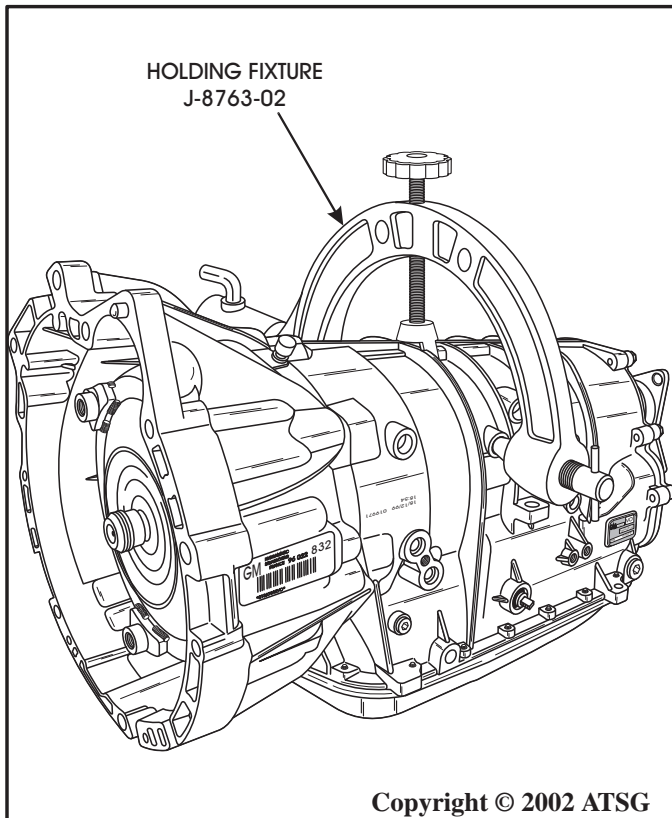

Figure 25
1. Install transmission Holding Fixture J-8763-02 or equivalent that will allow you to mount the transmission in a bench fixture and rotate it to a desired position for disassembly, as shown in Figure 25.